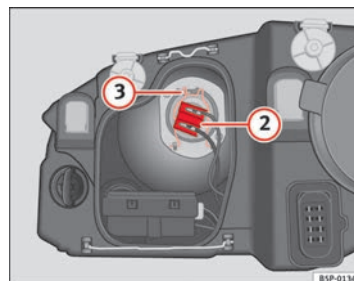

Fig. 188 Dipped beam headlights
- Remove connector ⇒ Fig. 188 ② from the bulb.
- Unclip the retainer spring ⇒ Fig. 188 ③ pressing inwards to the right.